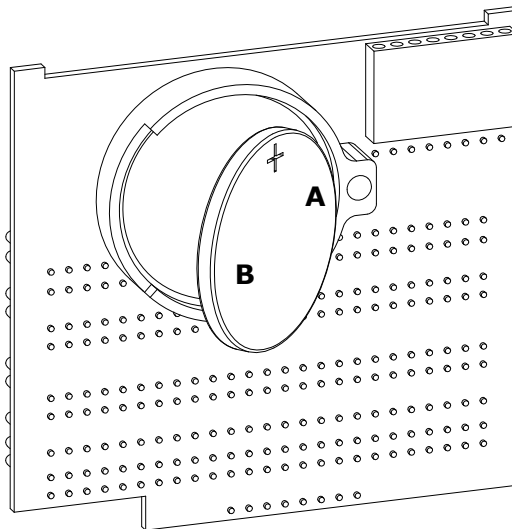

Figure 6.21: Battery Holder Detail
- b. Insert the RIGHT SIDE of the battery UNDER the 2 clips on the right side of the holder while gently pushing the battery against the INSIDE RIGHT WALL of the battery holder (Side A in Figure 6.21).
- c. Gently push the LEFT SIDE of the battery in until it snaps into place (Side B in Figure 6.21).